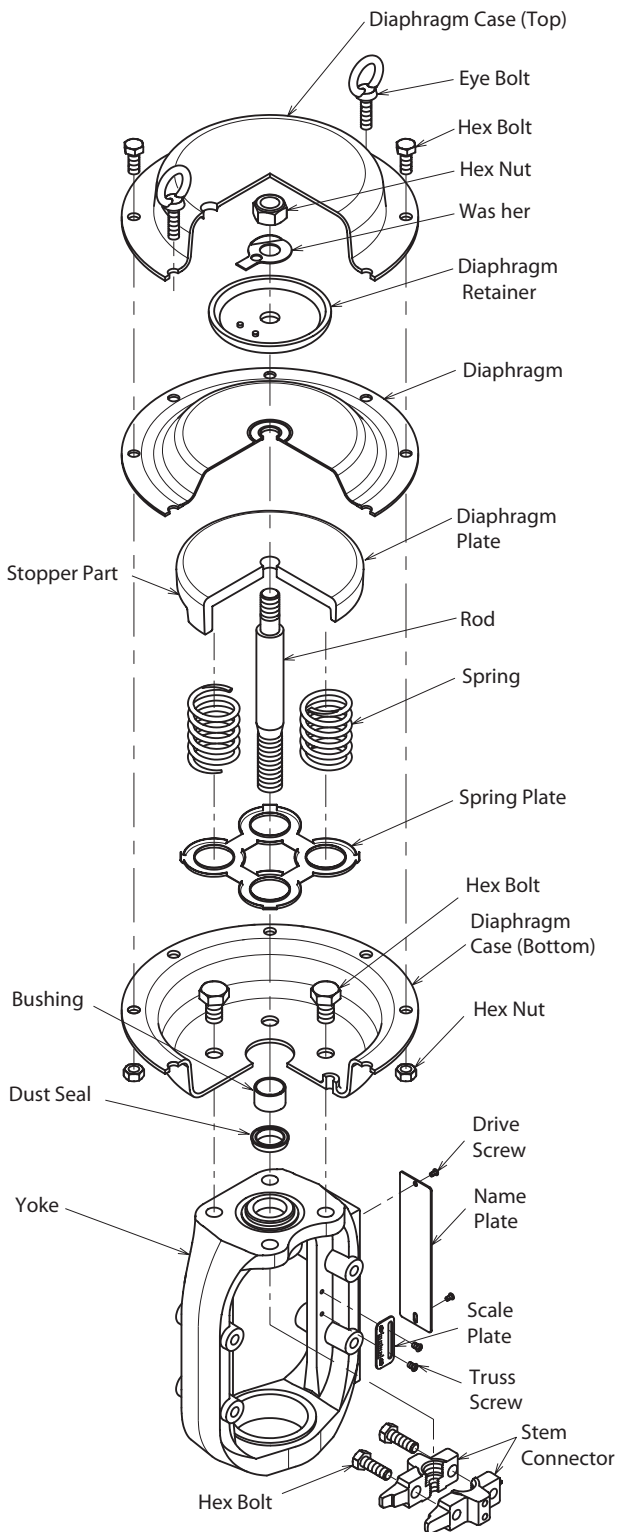
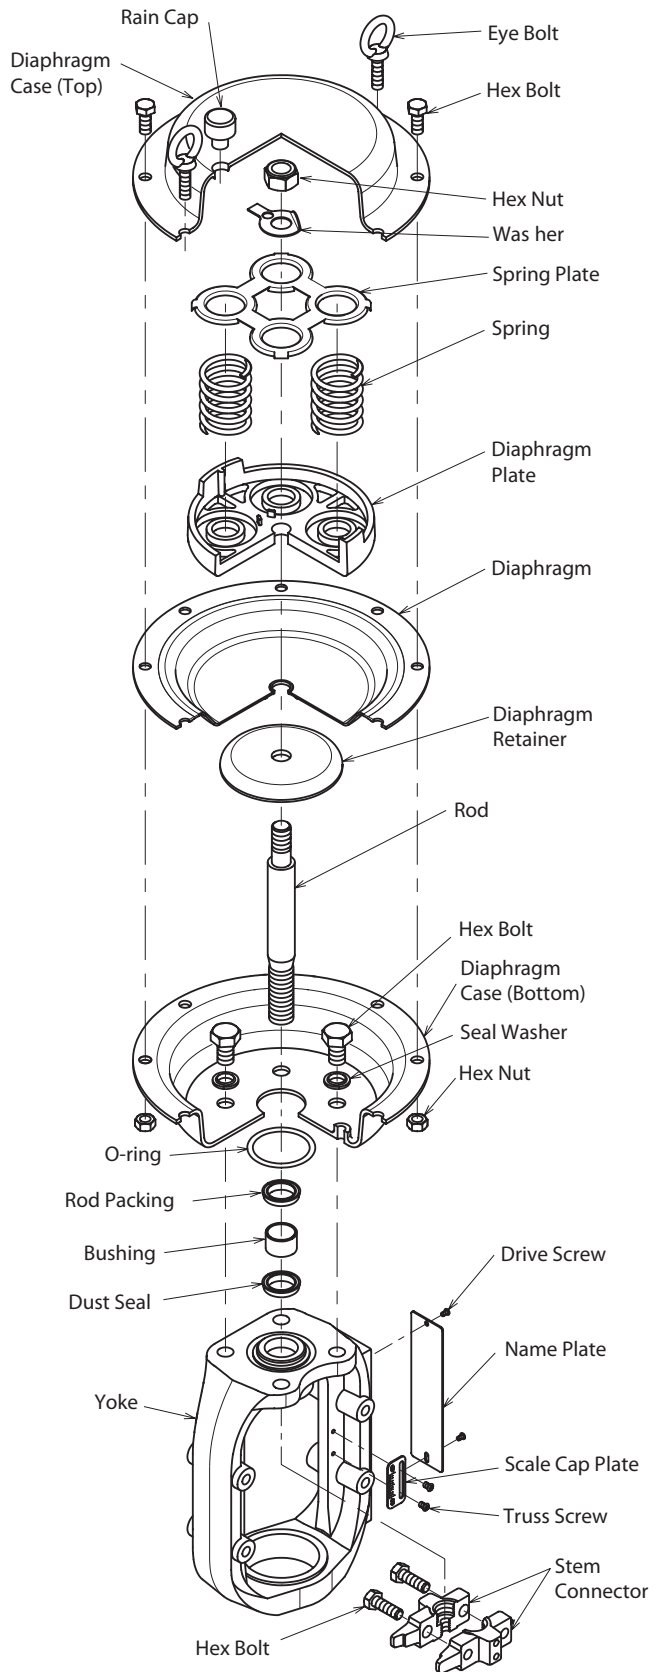

Figure 4-4 Direct Action model PSA1D
Figure 4-5 Reverse Action model PSA1R
A. Direct action model (see Figure 4-4)
- (1) Disconnect the air piping and detach the accessories from the actuator.
- (2) Remove the stem connector.
- (3) Remove the clamping bolts (except the pair of eyebolts) from the diaphragm case.
- (4) Alternately and evenly loosen the pair of eyebolts. The initial setting of the springs is achieved using these eyebolts.
- (5) Removing the diaphragm case. Pull the actuator rod upward and out together with the diaphragm.
- (6) Take out the springs.
B. Reverse action model (see Figure 4-5)
- (4) Alternately and evenly loosen the pair of eyebolts. The initial setting of the springs is achieved using the eyebolts.
- (5) Remove the diaphragm case. Take on the springs.
- (6) Pull the actuator rod upward and out together with the diaphragm.
Refer to Fig 4-4.
Install packing for the rod and dustseal in the correct direction. Refer to Fig.4-5.